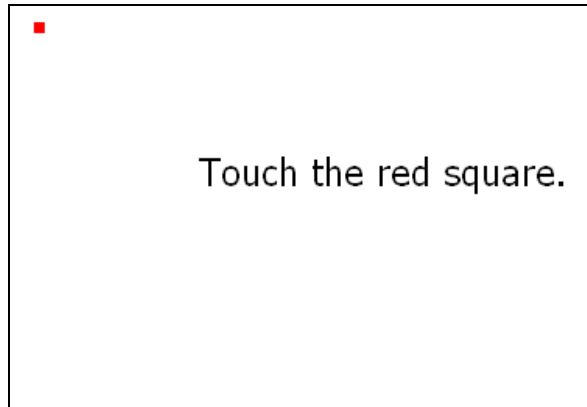

Figure 7-26: Calibration Screen
Step 9: The calibration screen in is shown. See **Figure 7-26**.